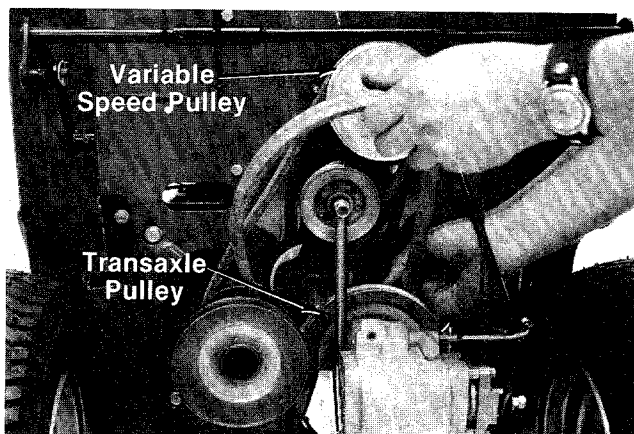

FIGURE 33.
8. Slip the "V"-belt off the variable speed pulley and transaxle pulley. See figure 33.